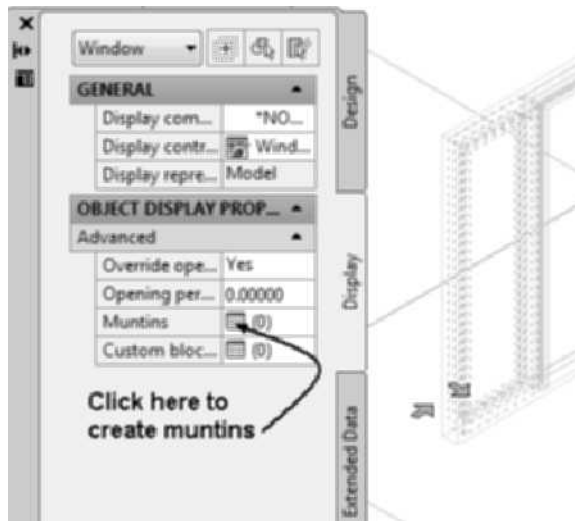

FIGURE 6.30 Selecting the window unit of the door/window assembly
27. Select the left-window unit as shown in Figure 6.30, right-click, and choose Properties. Select the Display tab of the Properties palette.
28. In this step muntins will be added to the display of the window style. Edit Display controlled by = Window Style: Standard. Select OK to Add Style Override dialog box to create an override to the style definition. Choose the Muntins button as shown in Figure 6.30, and click the Add button to open the Muntins Block Display dialog box shown in Figure 6.31. In the Window Pane section, click the Other button and click All. In the Muntin section, set Width = 3/4" [19], Depth = 1/2" [13], and check the Clean Up Joints and Convert to Body checkboxes. In the Lights section, set Pattern = Rectangular, Lights High = 6, and Lights Wide = 2.